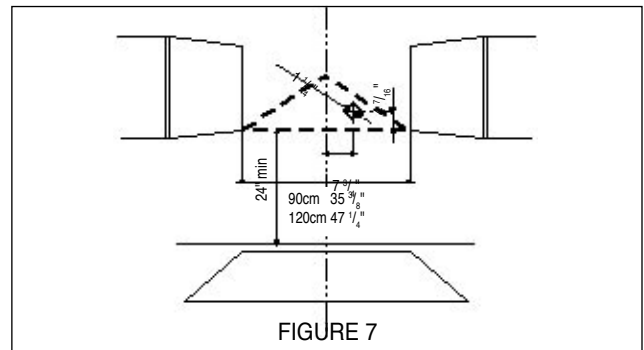

FIGURE 7
6. Determine the proper location for the Power Supply Cable as indicated in FIGURE 7. Use a 1 1/4" Drill Bit to make this hole. Run the Power Supply Cable. Use caulking to seal around the hole. DO NOT turn on the power until installation is complete. For remote blowers, a separate wiring cable is required. DO NOT WIRE THE REMOTE BLOWER INTO THE FIELD WIRING HOUSING OR CONNECT WITH THE POWER SUPPLY CABLE.